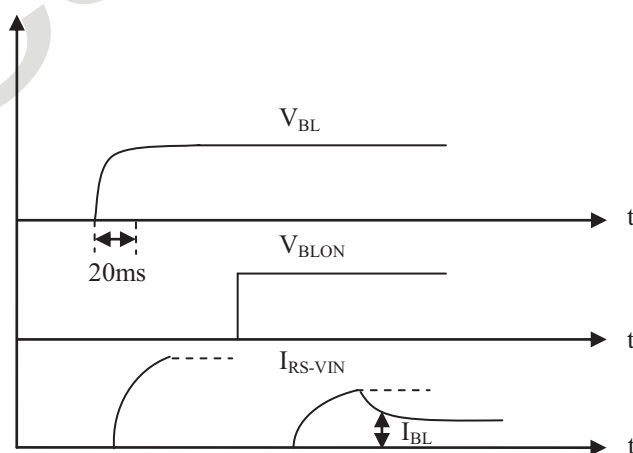

Fig. 3.4 The timing sequence diagram of inrush current measurement
- (1) Dimming ratio = 100% (Max.) ( $T_A = 25 \pm 5 \text{ }^\circ\text{C}$ , Turn on for 45minutes).
- (2) The measurement condition:  $V_{BL}$  rising time is 20 ms. ( $V_{BL}$  from 10% ~ 90%), the sequence diagram is shown as Fig.3.4.
- (3) Less than 5% dimming control is functional well and no backlight happens to shut down.
- (4) Normal: 0 ~ 0.8V; Abnormal: Open collector.